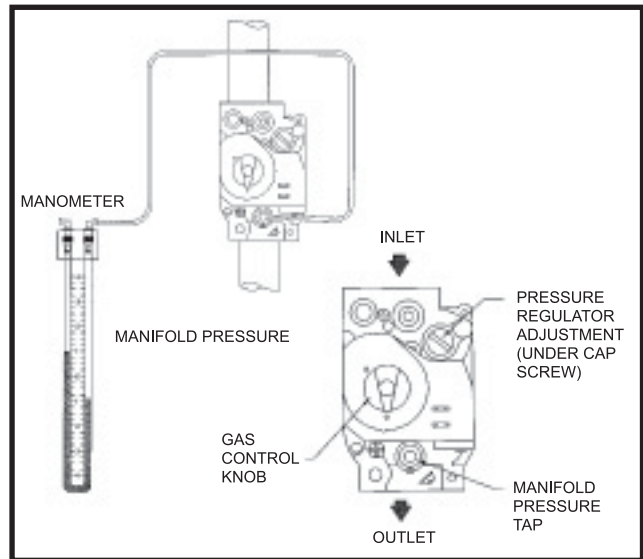

FIG. 31 Manifold Gas Pressure Measurement
10. Remove the 1/8" hex plug, located on the "outlet" side of the gas valve and install a fitting suitable to connect to a manometer or magnahelic gauge (see Figure 31). Minimum range of scale should be up to 5" w.c. for natural gas and 10" w.c. for propane gas.